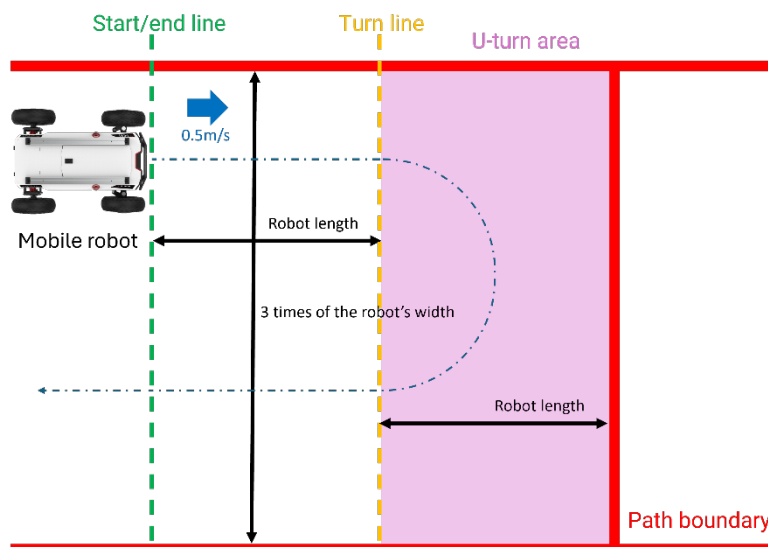

Figure 1. Test area for UGV.
- **Test site:** the test shall be conducted on a flat (gradient <1%), open surface free of major irregularities or obstacles. The test site is larger than or equal to 2 times the length of the robot and 3 times the width of the robot. A schematic diagram of the test scenario is shown in Figure 1.